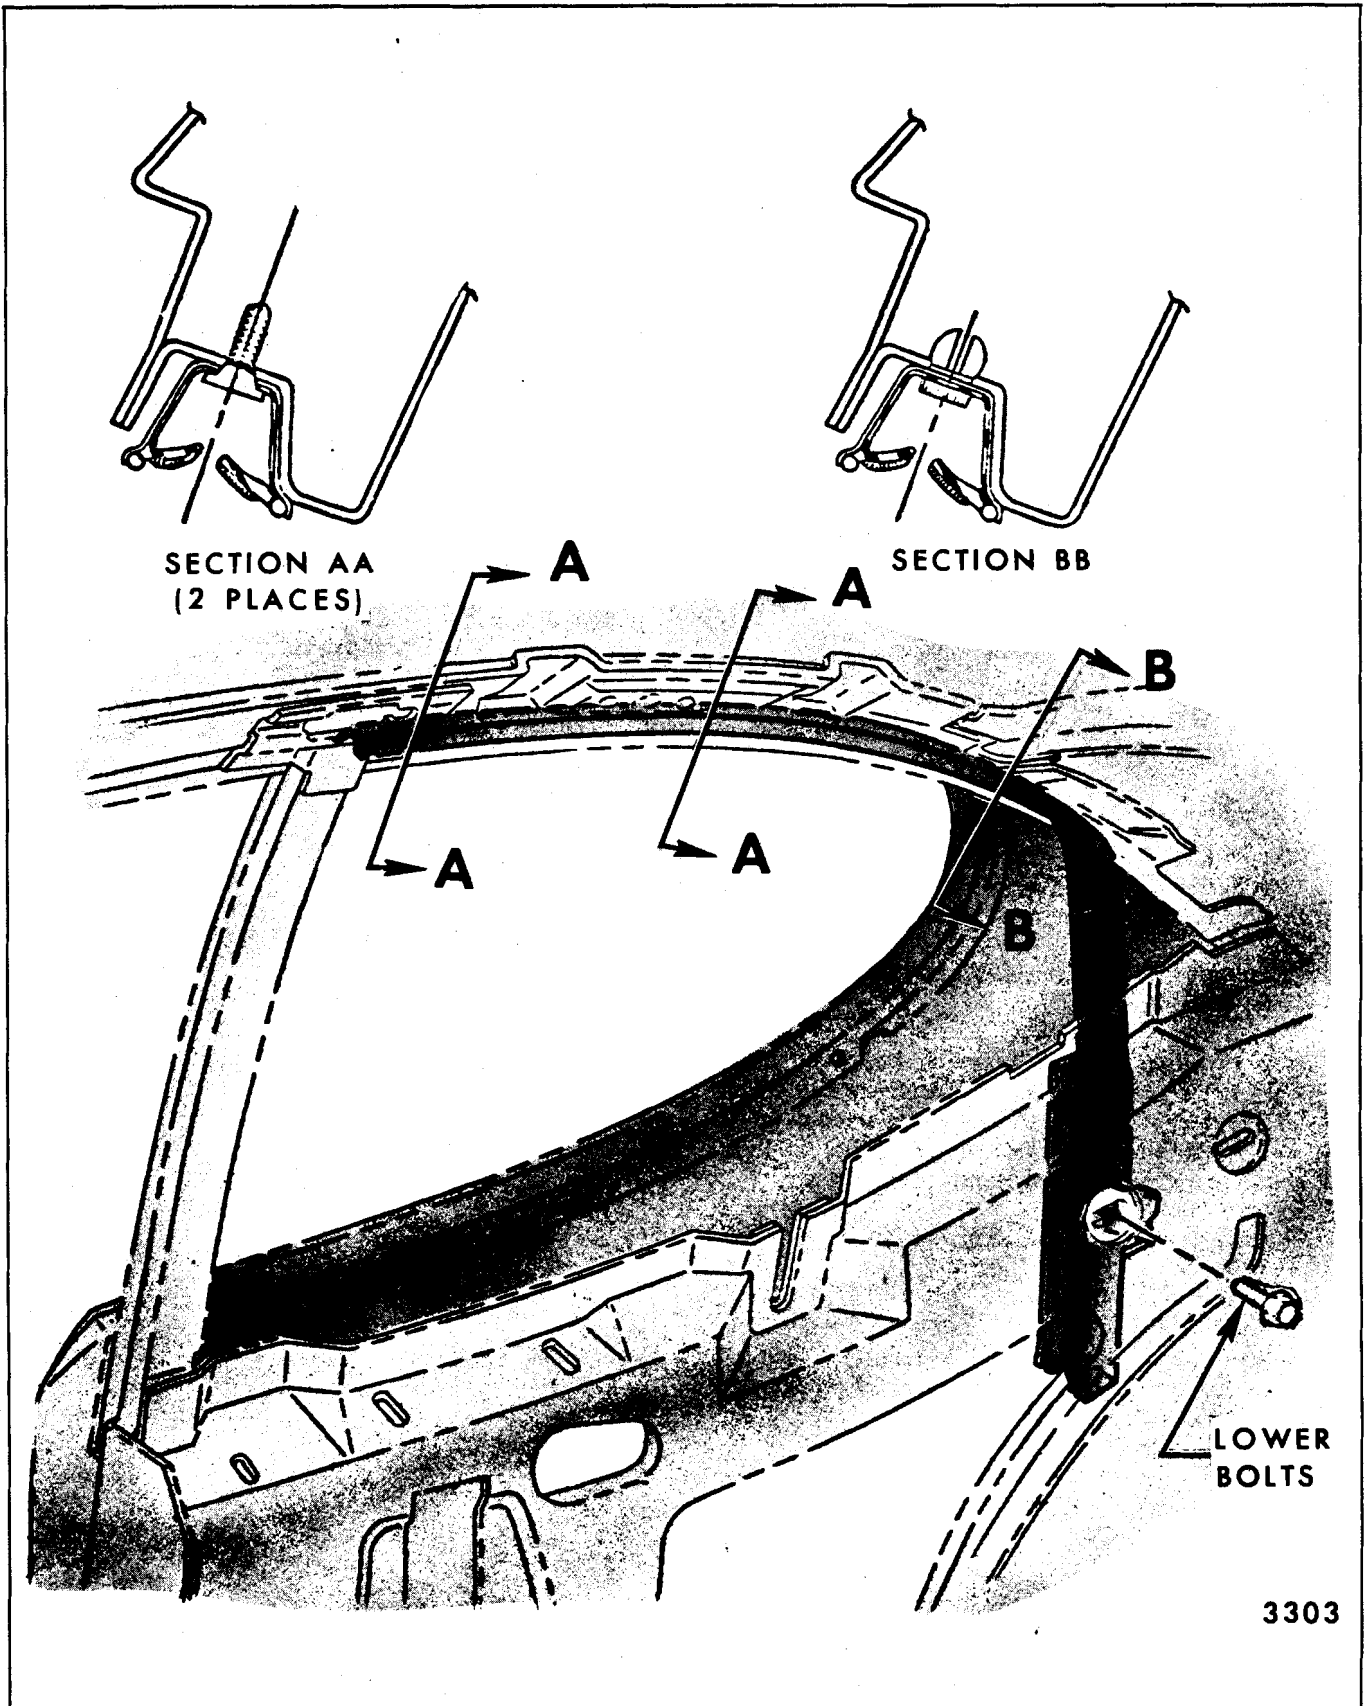

Fig. 7-7-Rear Quarter Window Glass Run Channels - Typical of All Closed Styles
2. Remove run channel to inner panel attaching bolt (Fig. 7-7).